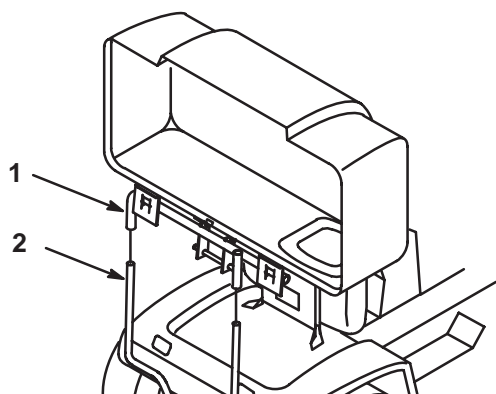

Figure 28
3. With lid in the open position carefully lift the bagger top and slide it off the quick-attach bracket (Fig. 28).